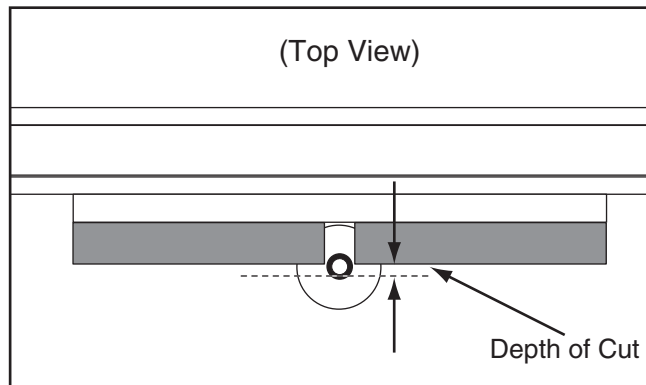

Figure 32. Groove cutting setup—top view (guard removed for clarity).
5. Raise the bit to the desired height, then adjust the fence assembly so that the fence boards are behind the bit the same distance as the desired depth-of-cut (see the illustrations in **Figures 32–33**).